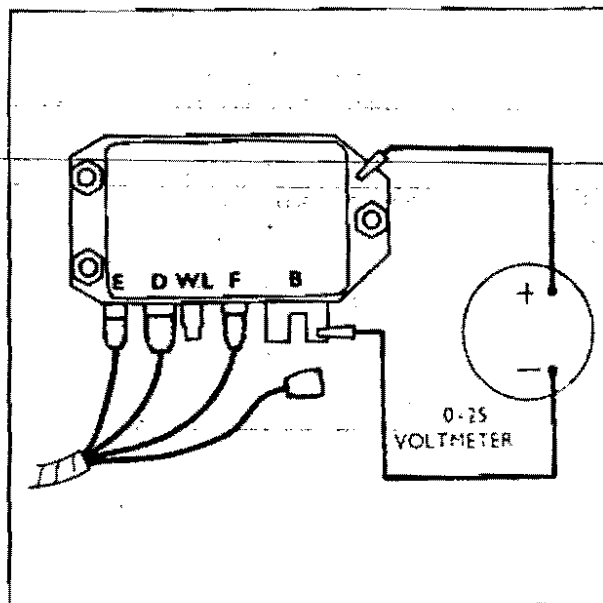

Fig. 13—Cut-out, Drop-off Voltage
**CUT-OUT DROP-OFF VOLTAGE (see Fig. 13)**